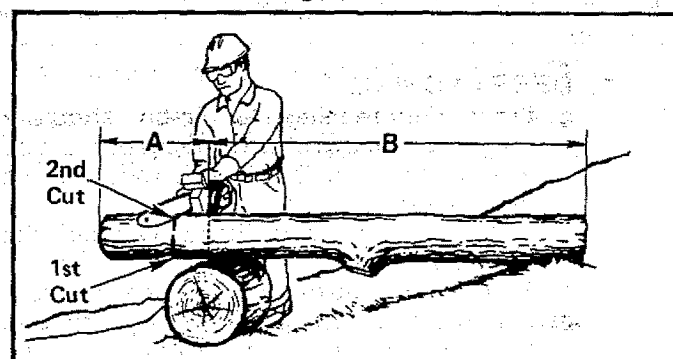

Figure 31
4. BUCKING — USING ANOTHER LOG AS A SUPPORT (Figure 31):